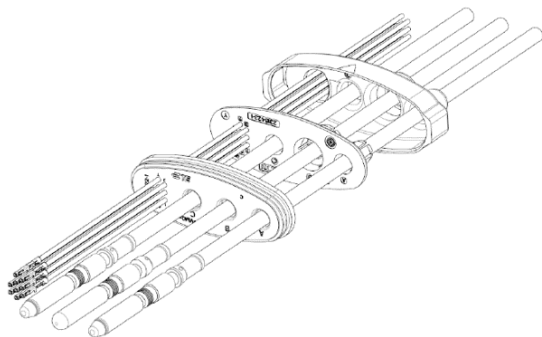
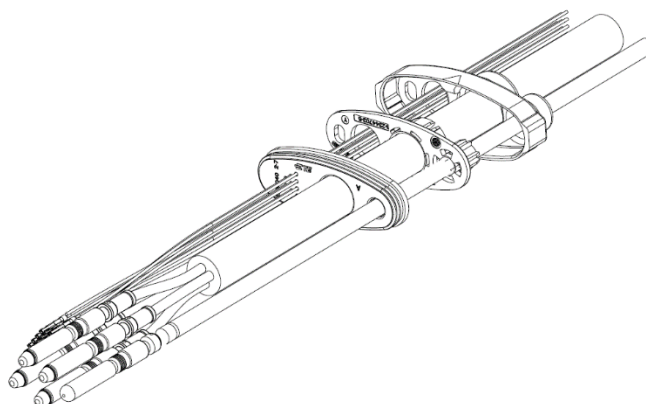

Figure 16a
Figure 16b
**After Crimping the subassembly of cables with cable exit components is in the condition shown in figure 16a and figure 16b:**